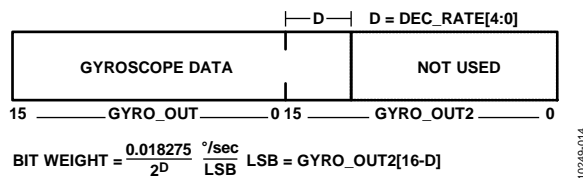
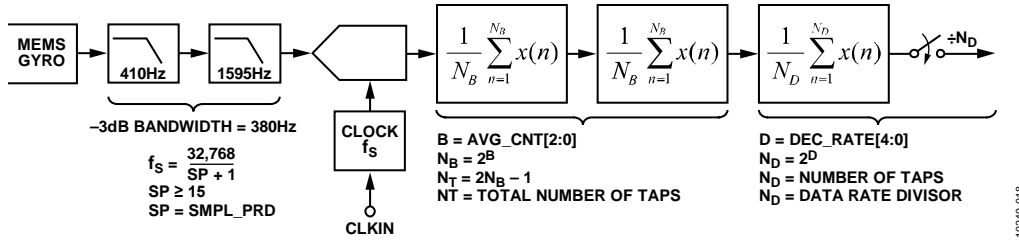

Figure 14. Gyroscope Output Format, DEC_RATE[4:0] > 0
Figure 18. Sampling and Frequency Response Block Diagram
The GYRO_OUT2 register (see Table 11) captures the bit growth associated with the decimation and FIR filters that are shown in Figure 18 using a MSB justified format. The bit growth starts with the MSB (GYRO_OUT2[15]), is equal to the decimation rate setting in DEC_RATE[4:0] (see Table 18), and grows in the LSB direction as the decimation rate increases. See Figure 14 for more details.
Figure 18 provides a block diagram for the sampling and digital filter stages inside the ADIS16136. Table 15 provides a summary of registers for sample rate and filter control.
[15:0]	Clock setting bits; sets f_s in Figure 18
The AVG_CNT register (see Table 17) provides user controls for the low-pass filter. This filter contains two cascaded averaging filters that provide a Bartlett window FIR filter response (see Figure 18). For example, set AVG_CNT[7:0] = 0x04 (DIN = 0xA004) to set each stage to 16 taps. When used with the default sample rate of 1024 SPS, this establishes a -3 dB bandwidth of approximately 24 Hz for this filter.
[2:0]	Binary; B variable in Figure 18; maximum = 110 (6)
The DEC_RATE register (see Table 18) provides user control for the final filter stage (see Figure 18), which averages and decimates the output data. For systems that value lower sample rates, this filter stage provides an opportunity to lower the sample rate while maintaining optimal bias stability performance. The -3 dB bandwidth of this filter stage is approximately one half the output data rate. For example, set DEC_RATE[7:0] = 0x04 (DIN = 0xA204) to reduce the sample rate by a factor of 16.
[4:0]	Binary; D variable in Figure 18; maximum = 10000 (16)